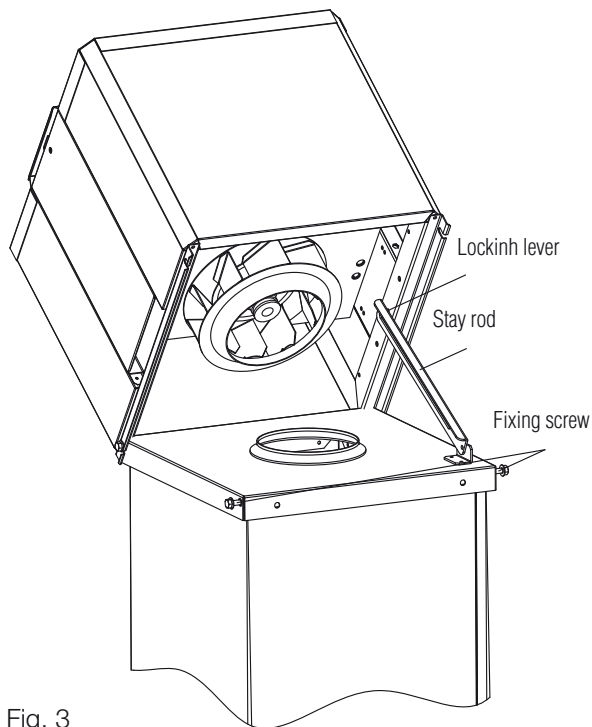

Fig. 3
2. Back off the fixing screws appr. 10 mm so that the fan section can be raised on its hinges. The stay rod (1 or 2 stay rods depending on the fan size) locks the fan section automatically in the fully open position as shown in the Figure 3.
5. On having completed the maintenance work release the stay rod by depressing the locking lever (see Figure 3) and lower the fan section back to its initial position. Re-tighten the fixing screws. The fan casing can also be cleaned from the top after removing the protective screen.